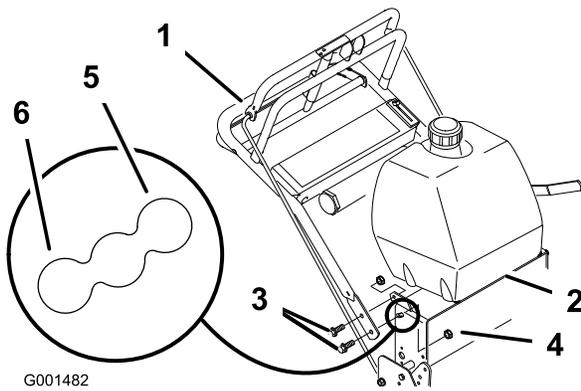

Figure 21
- Loosen the upper flange bolts (3/8 x 1 inch) and flange nut securing handle to rear frame (Figure 21).
- Remove the lower flange bolts (3/8 x 1 inch) and flange nuts securing handle to rear frame (Figure 21).